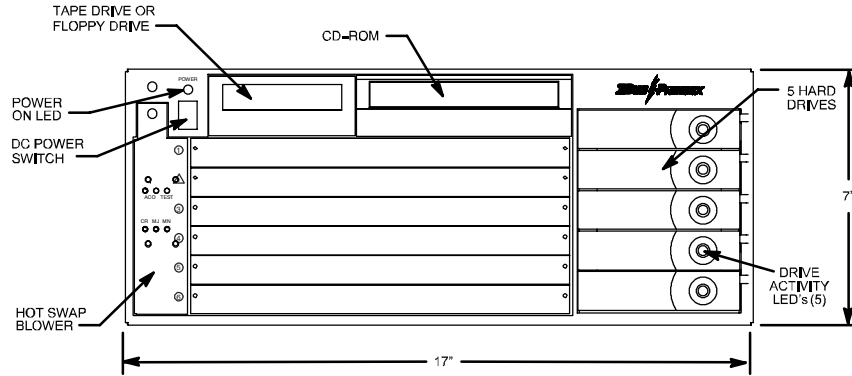

Figure 2-1. C0406A System Configuration - Front View
- Figures 2-1, 2-2, and 2-3 show the configuration for C0406A.